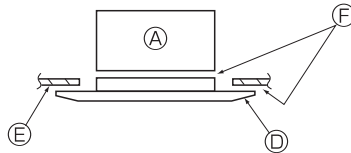

Fig. 10-7
* Make sure that there are no gaps between the main unit and the panel or the panel and the ceiling. (Fig. 10-7)
- (A) Main unit
- (B) Electric component box
- (C) Screw with washer (Accessory)
- (D) Grille
- (E) Ceiling
- (F) Make sure that there are no gaps.
- (G) Temporarily hanging hooks on the panel